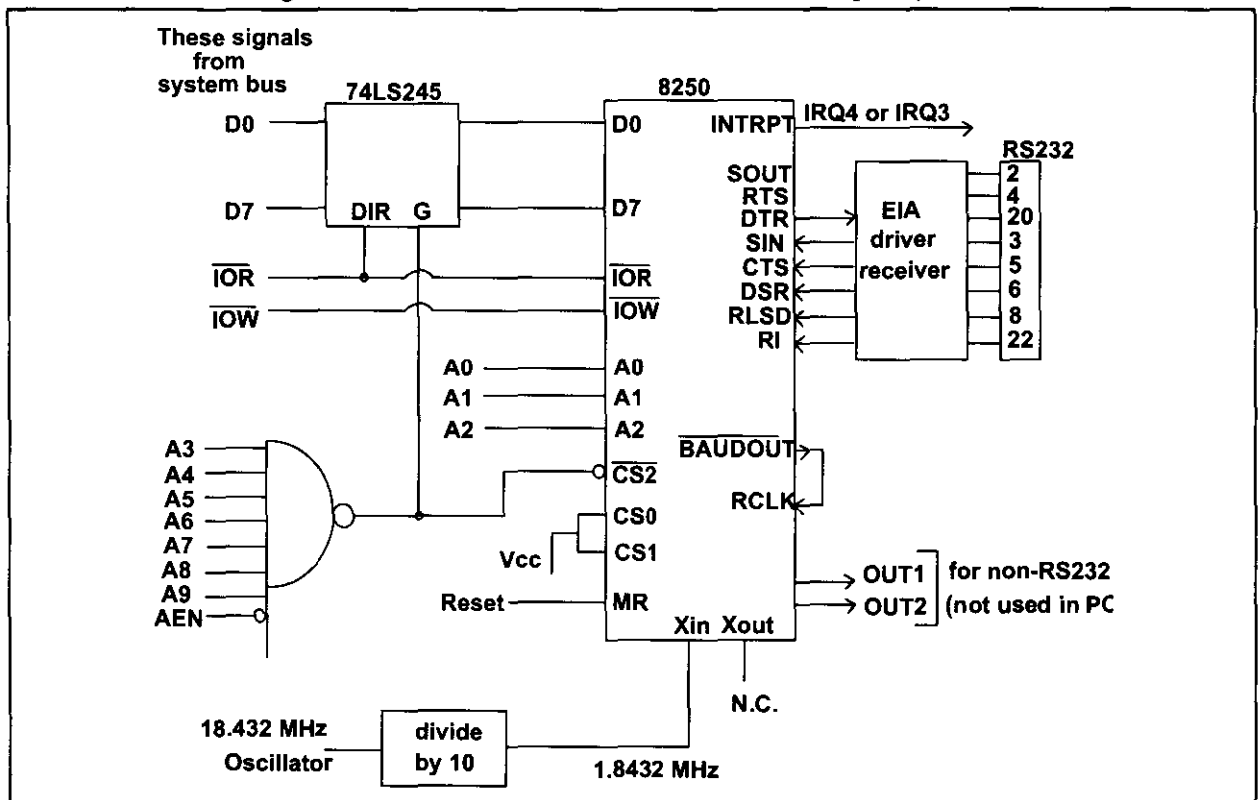

Figure 17-10. 8250 Connection to the IBM PC Buses
This is the bidirectional data bus connected to the data bus of the CPU. Notice in Figure 17-10 that for the IBM PC COM port the 74LS245 data bus transceiver is activated only for the I/O address range of 3F8H - 3FFH.
- Find the I/O port address range set aside for COM0 of the IBM PC in Figure 17-10.